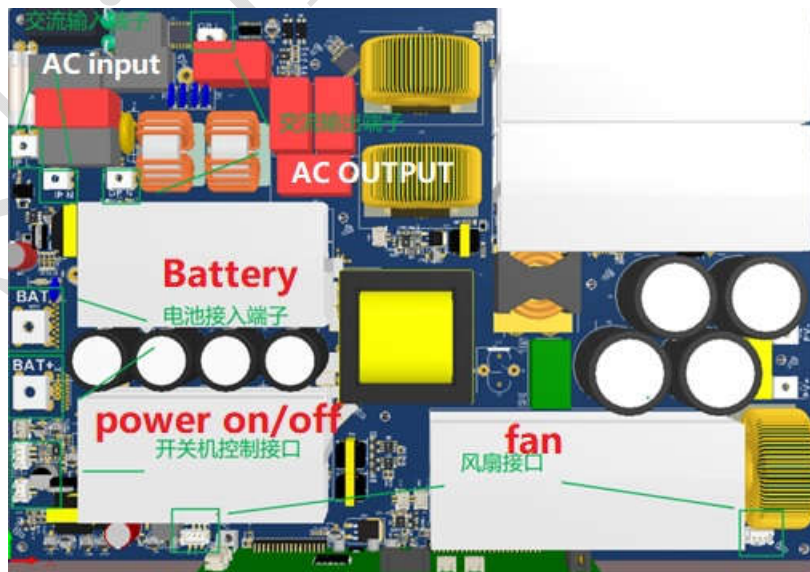
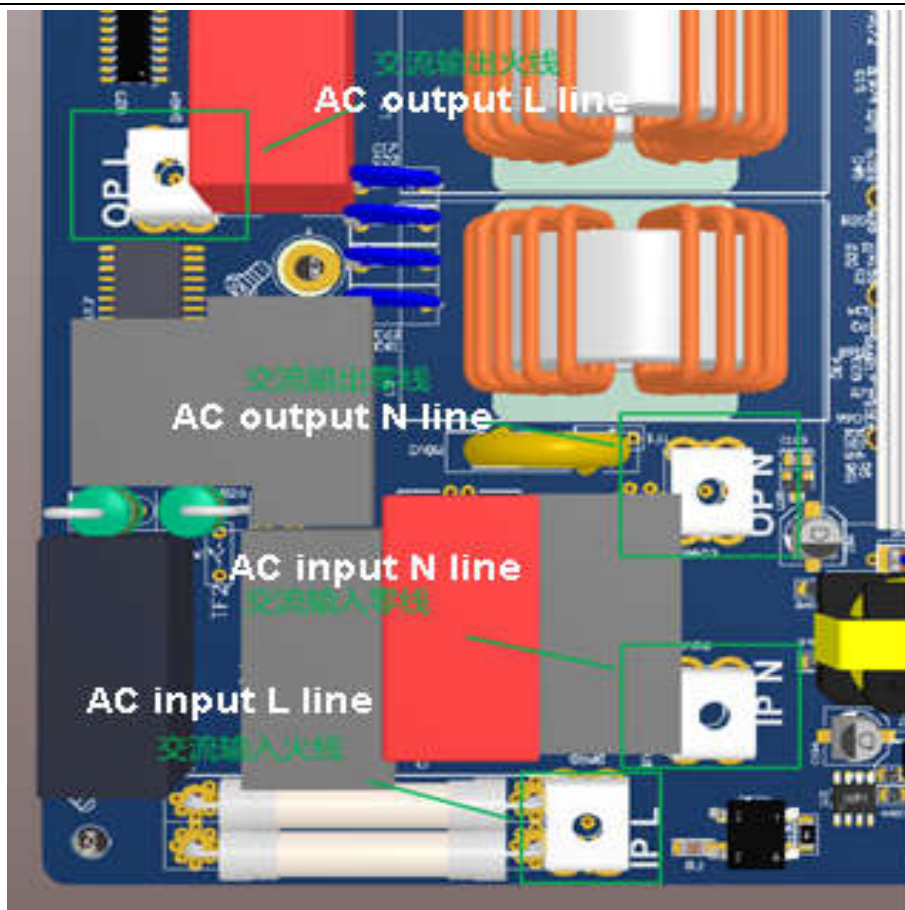

图 1
图 2
1. connection, as shown in Figure 1 and figure 2, the connection point (IP.L) is the AC input Live wire, (IP.N) is the AC input Negative wire when in charging, the (BAT+) is the positive pole
如下图 1, 图 2 所示, 端子 (IP.L)和(IP.N) 分别接交流电输入火线, 零线; 端